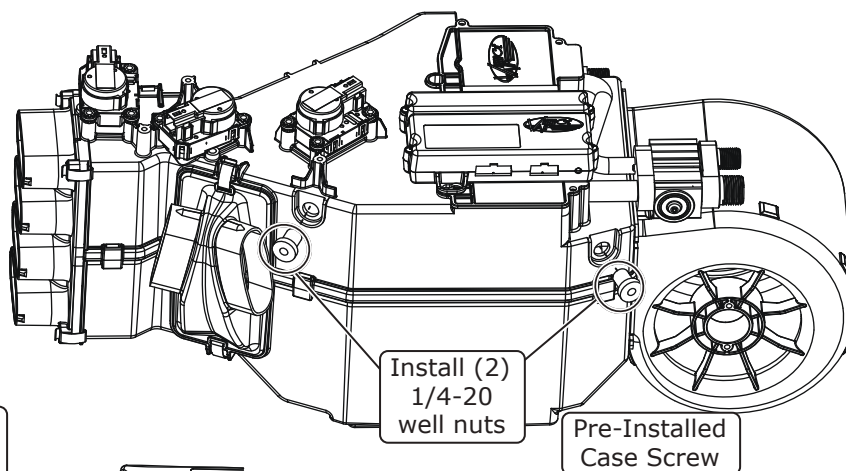

Figure 4
3. Install (2) 1/4-20 well nuts as shown in Figure 4, below.